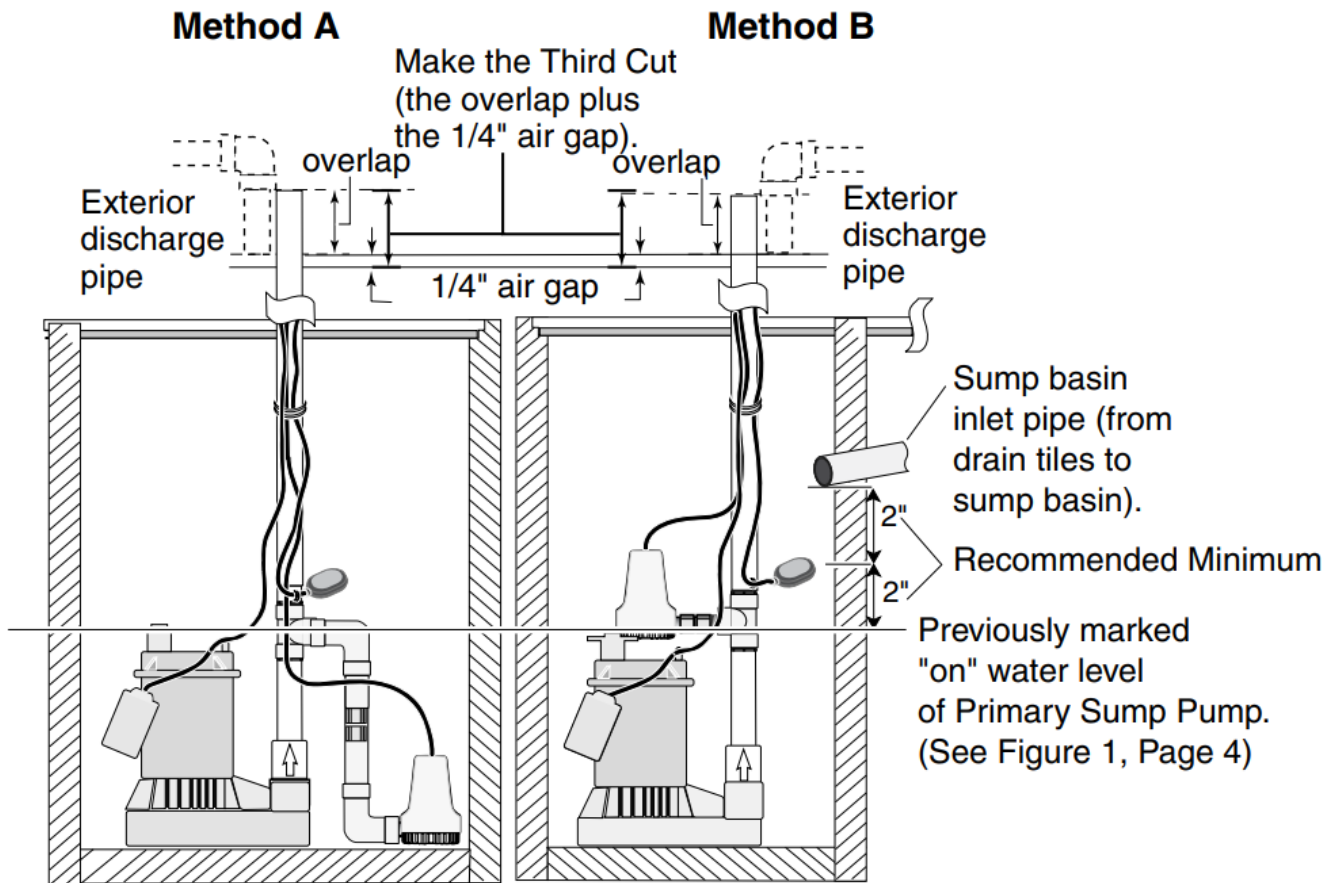

Figure 8 – Make the third cut to remove the excess discharge pipe
3. Make the third cut. See Figure 8.